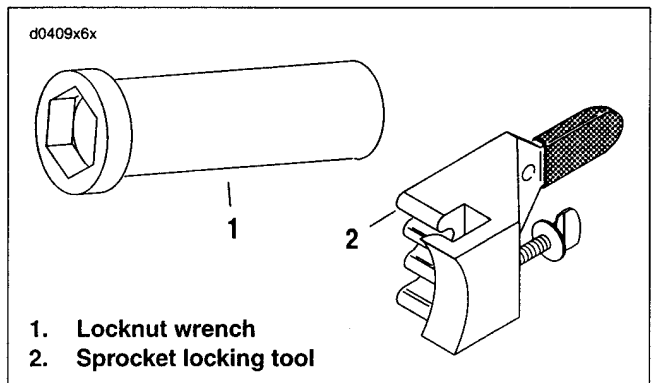

Figure 6-26. Transmission Sprocket Tools
- b. See Figure 6-26. Secure sprocket using TRANSMISSION SPROCKET TOOL (Part No. HD-41184).
3. See Figure 6-26. Lock transmission sprocket with the TRANSMISSION SPROCKET LOCKING TOOL (2) (Part No. HD-41184). Attach tool to sprocket with tool handle below pivot shaft. Snug thumbscrew to lock tool on sprocket.
4. Screw pilot of MAINSHAFT LOCKNUT WRENCH (1) (Part No. HD-94660-37B) onto threaded end of mainshaft.